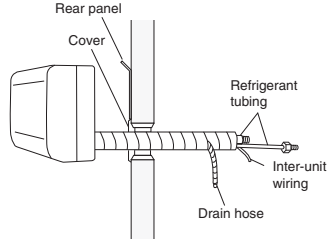

Fig. 3-60
- (1) Shape the refrigerant tubing so that it can easily go into the wall hole. (Fig. 3-60)